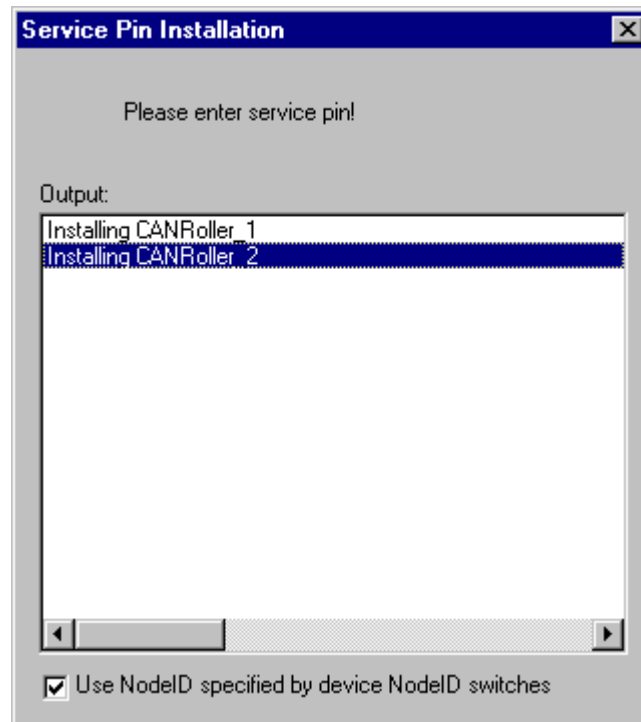

Fig. 5.14
- Wait until the module resets and all zones' LEDs flash shortly. When the module is ready the dialog box will invite you to install the next (downstream) module - Fig. 5.14.